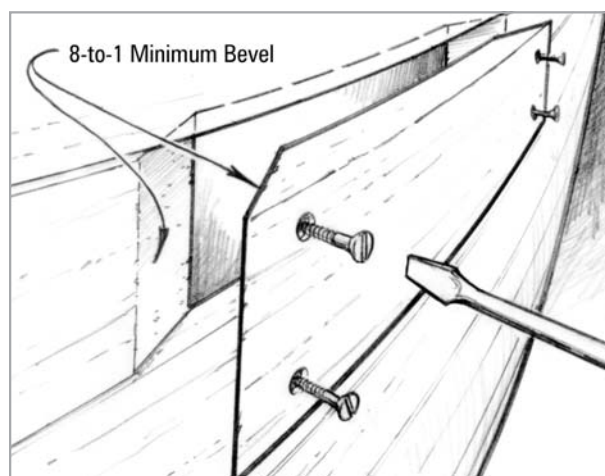

Figure 5-6 Replace a section of plank using scarf joints.
3. Cut a piece of wood to fit the opening. Match the 8-to-1 bevel on each end (*Figure 5-6*). Make the new piece of wood slightly thicker than the original planking. Excess material inside or outside the hull can be planed off after the glue has cured.